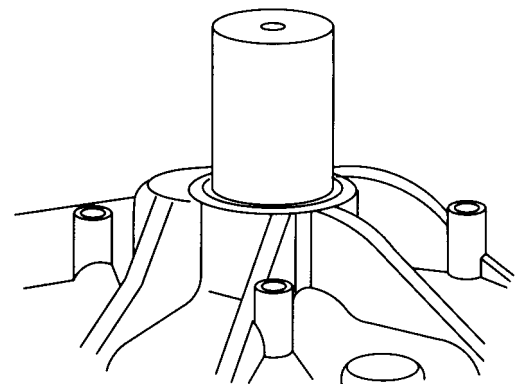

Fig. 7 - Install Mag Bearing
1. Place cylinder on cylinder support, Briggs Tool P/N19227 with large opening facing bearing, Fig. 7.